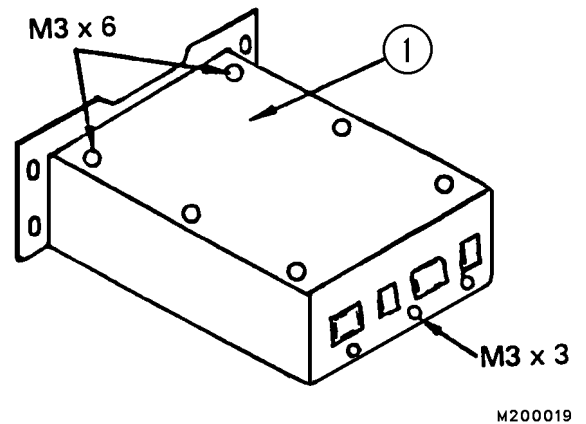

FIGURE 6-8. ACCESS TO BATTERY
4. Remove the electrical connector. Remove the screws on the top surface and the rear face. Remove the cover (Figure 6-8). This will expose the battery, its wires, and the connector.